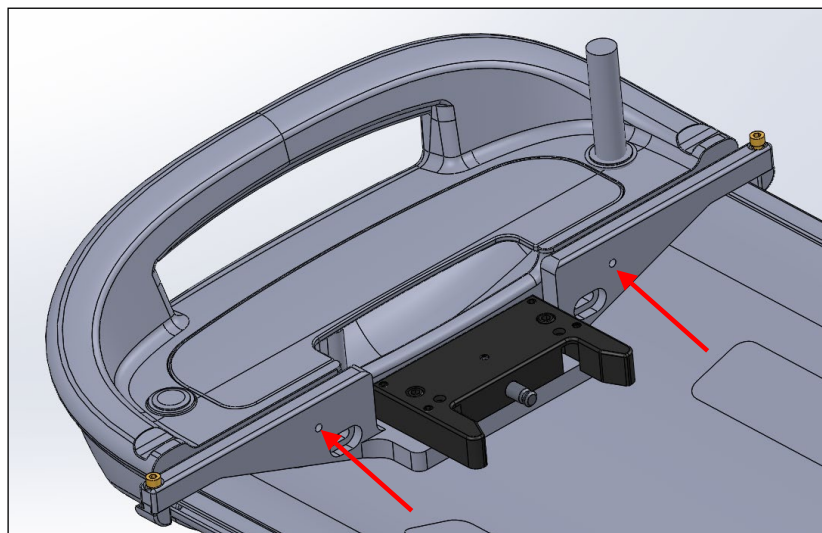

Fig. 50
5. Next tighten set screw P/N 3002138 (2 places) equally. Ensure that the latch is stable and does not move (Fig. 50).